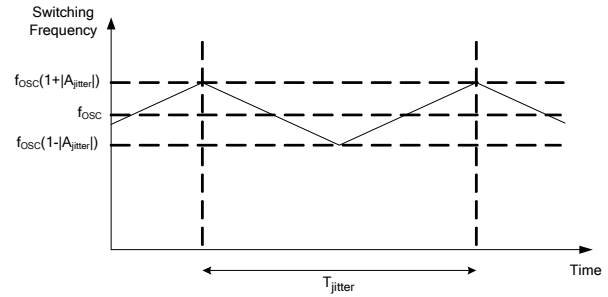

Figure 3: Frequency Jittering
An internal capacitor is charged with a controlled current source, which is fixed when FB is greater than 2V, and its voltage is compared with the TIMER voltage (V_{TIMER}). V_{TIMER} is a triangular wave between 2.8V and 3.2V with a charging/discharging current (see Figure 3). The switching frequency can be calculated using Equation (1):